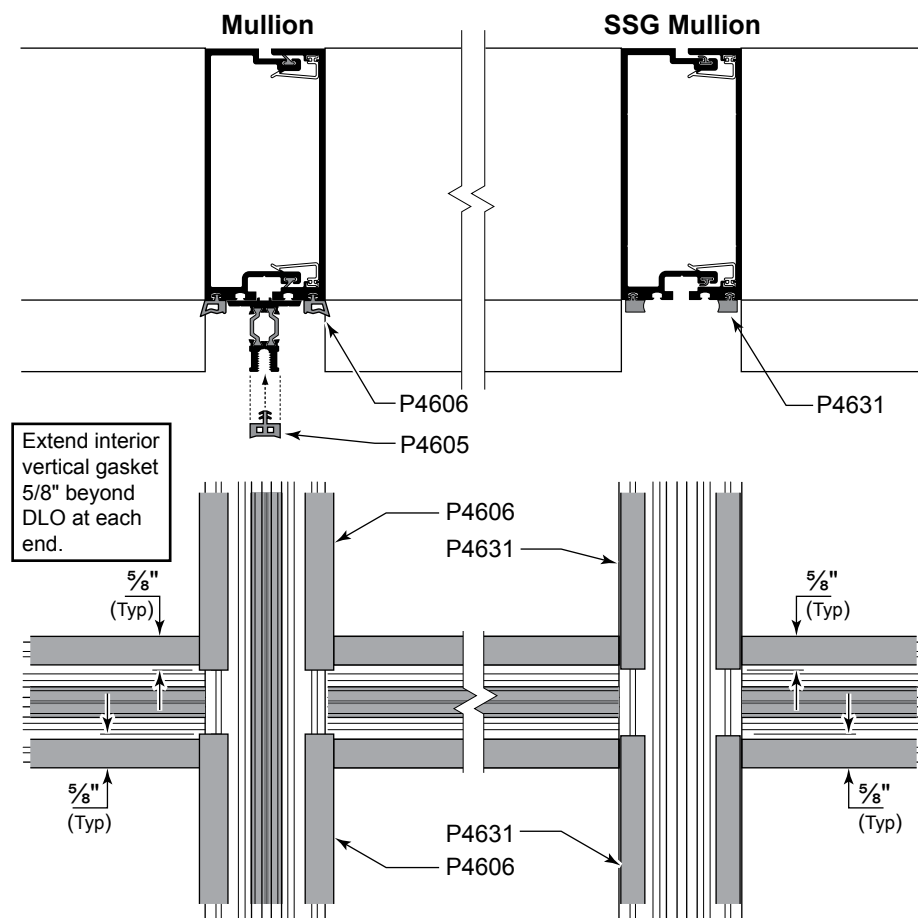

Fig. 34.1
- E. For pre-sealing captured mullion frames: Water dams can be pre-applied to each bay in the shop before transporting to the jobsite. Follow the same sealing procedures as with a captured system noted above. See Fig. 34.1.